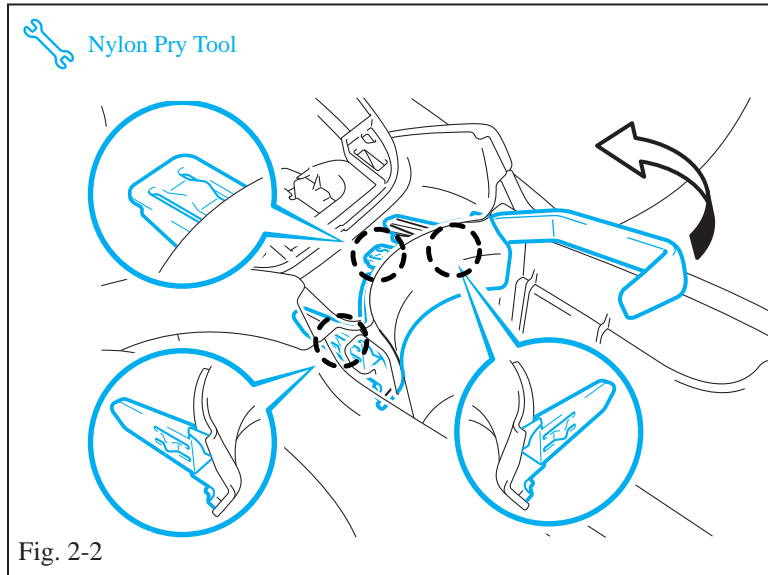

Fig. 2-2
- (d) Remove the cover in front of the console by releasing the upper three (3) claws with a nylon pry tool. (Fig. 2-2)